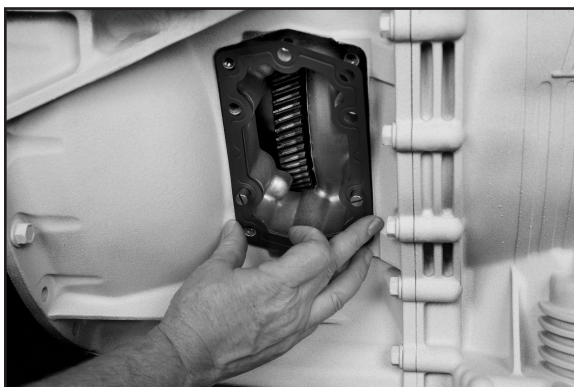

Figure 16
5. Install the special gasket over the guide pins. The ribbed surface should face outward, toward the installer (**Fig. 16**).